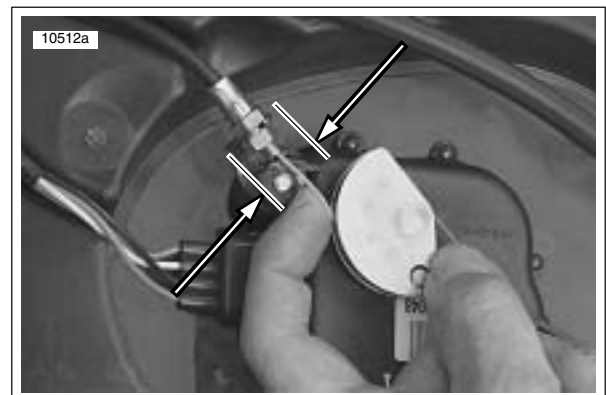

Figure 1-48. Checking For 1/8 in. (3.2 mm) Maximum Free Play In Either Direction For Proper Adjustment
9. See Figure 1-48. Adjust interactive exhaust cable as follows: